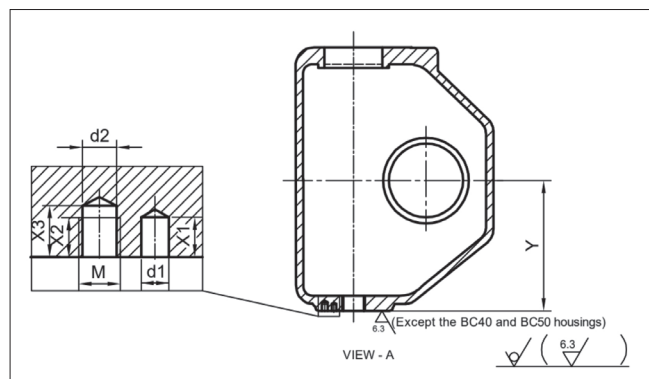

Fig. 13 Locations for Additional Machining of Housing for Angle Plate
3. Measure & record L1 dimension (refer to L1 in table 4 & Fig. 13).
5. Screw in the Limit stop bolt until it makes firm contact (refer to L2 in table 4 and Fig. 13).